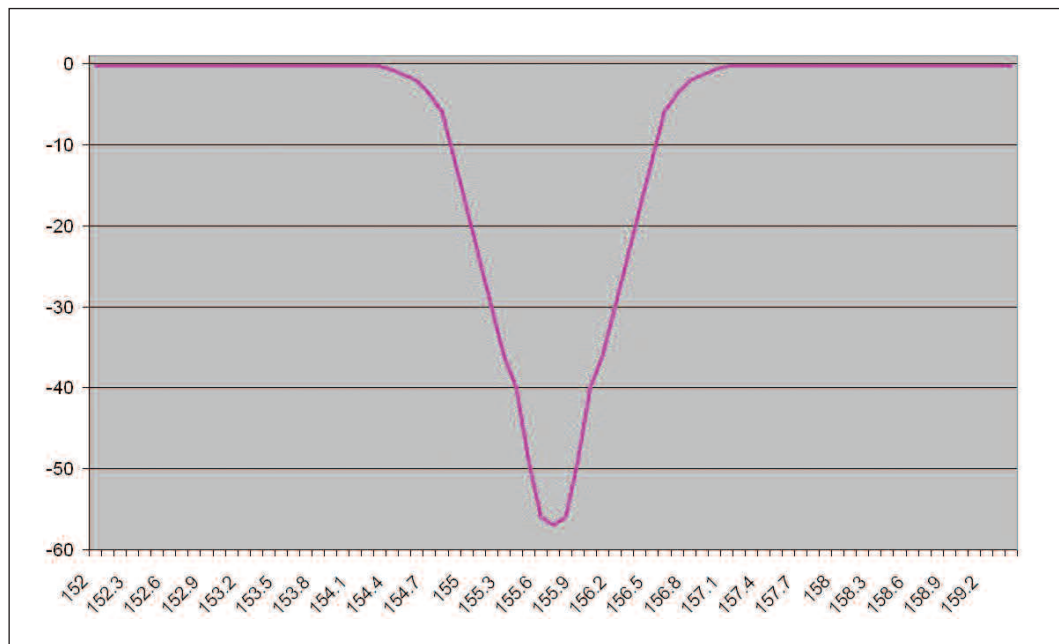

Figure 13. Transmitter Notch filter to help reduce interference
- Use a notch filter on transmitter to reduce the sidebands at input frequency, such as shown in figure 13.